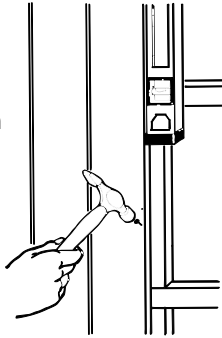

Fig 4 Pinning the first panel in the centre of the vertical batten.
- Place the first panel against the wall with one edge in the centre of a vertical batten, fix the panel with a single panel pin (see Fig 4), then adjust the panel so that it is exactly vertical using a spirit level before nailing all around.